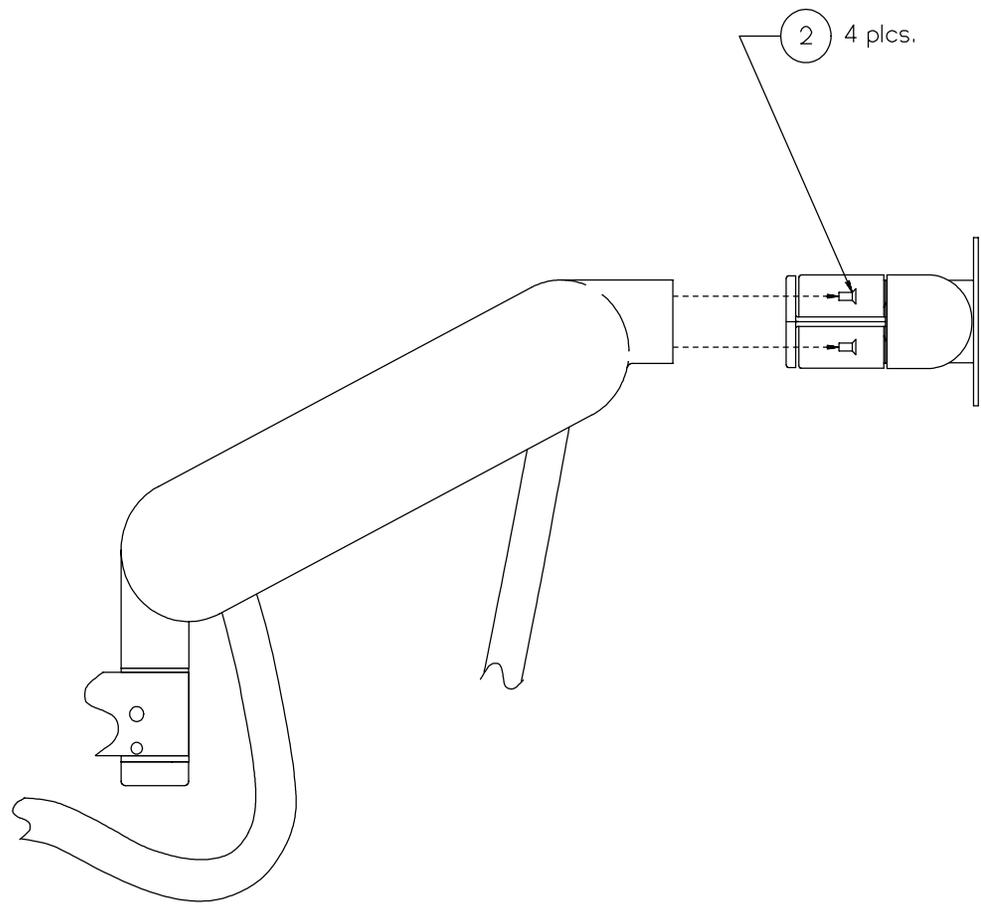

Figure 5
- Monitor Pivot Mount, directly behind the flat panel display monitor (open end wrench) see Figure 5.
2. Remove the 4 screws that attach the Pivot Mount to the Secondary Arm, then remove the Pivot Mount. See Figure 5.